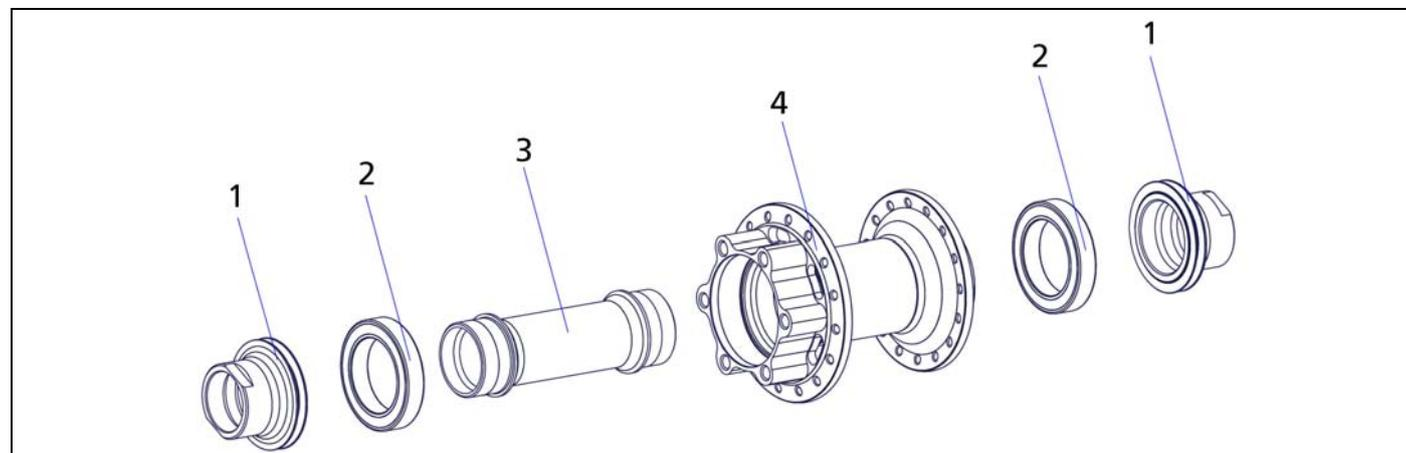

Figure 3-1: 240 Oversize
1. Loosen the end caps (fig. 3-1/1) using a wrench and remove it from the axle.
1. Slide the disassembly tool onto the axle (fig. 3-1/3).
2. Tap the bearing (fig. 3-1/2) and the axle out of the hub shell using the disassembly tool and a hammer.
2. Put the axle (fig. 3-1/3) onto the mounting tool.
4. Slightly grease the bearing (fig. 3-1/2) and put it onto the disc side with the colored side facing outwards.
1. Grease the bearings and the inner surface of both end caps (fig. 3-1/1).
2. Screw on both end caps (fig. 3-1/1) by hand.
3. Tighten the end cap (fig. 3-1/1) with 15 Nm using a wrench.